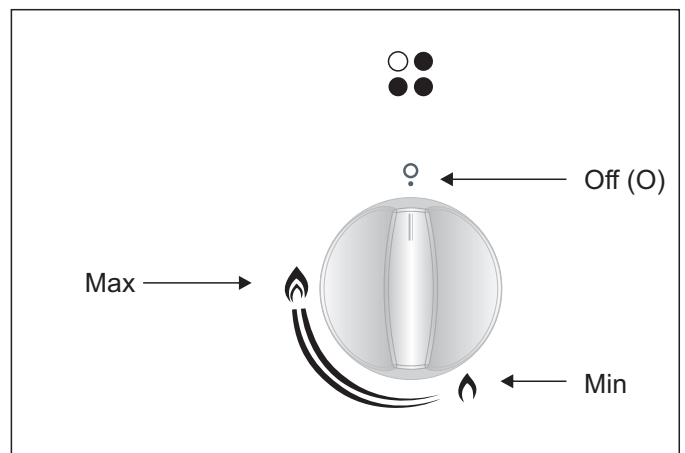

Figure 5
1. Each control knob has 3 main positions as shown in figure 5:
- Off (0)